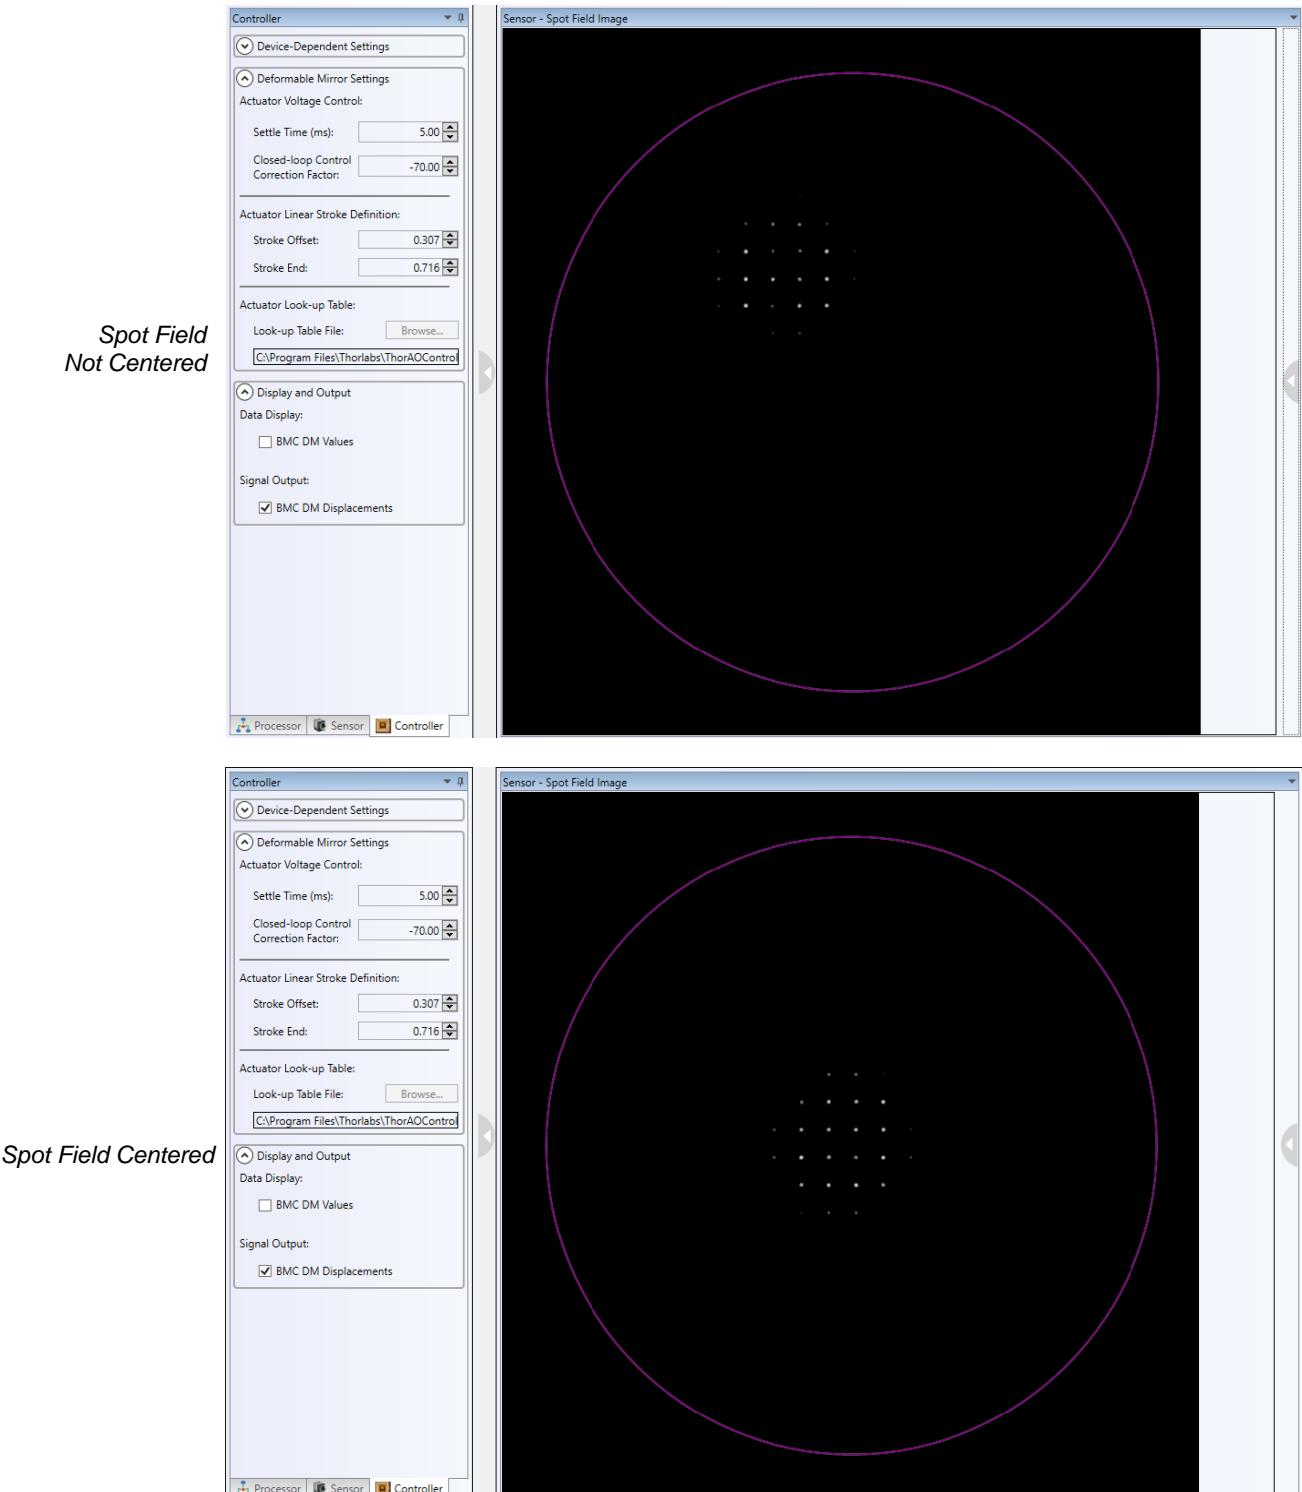

Figure 174 Spot Field Distribution Window
- 3) Adjust the spot distribution field of the SH such that the spots are centered on the spot field tab of the SH window. Figure 174 below shows how the spot distribution should be centered in the spot field tab screen.
- 4) While monitoring the wavefront tab of the SH window (refer to Figure 174), adjust the pitch and yaw of the SH mount such that the wavefront flattens. The default setting for the wavefront display is auto-ranging, so the wavefront will never appear absolutely flat. However, with all CPA's removed from the system, the peak-to-valley deviation of the wavefront should be less than 1 micron if things are aligned properly.